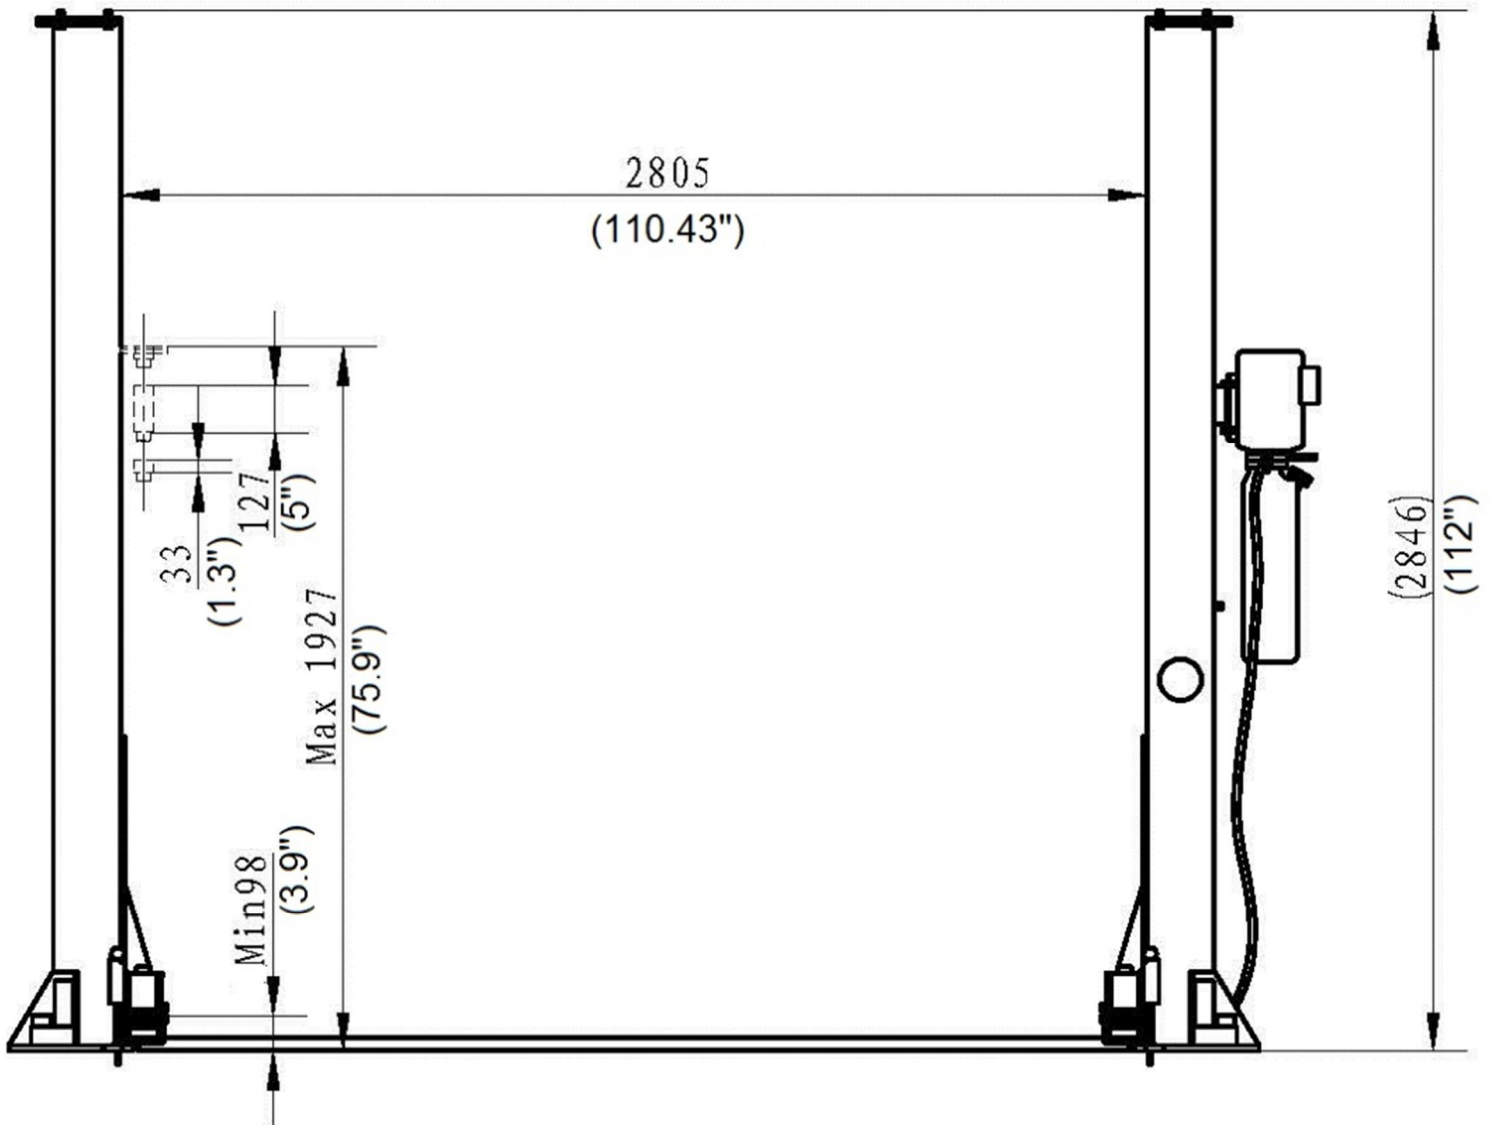

Fig. 2
1. **LIFT LOCATION:** Always use architects plans when available. Check layout dimension against floor plan requirements making sure that adequate space is available (**Figs. 2, 3 & 4**).
2. **OVERHEAD OBSTRUCTIONS:** The area where the lift is located should be free of overhead obstructions such as heaters, building supports, electrical lines, etc. (**Fig 2**.)